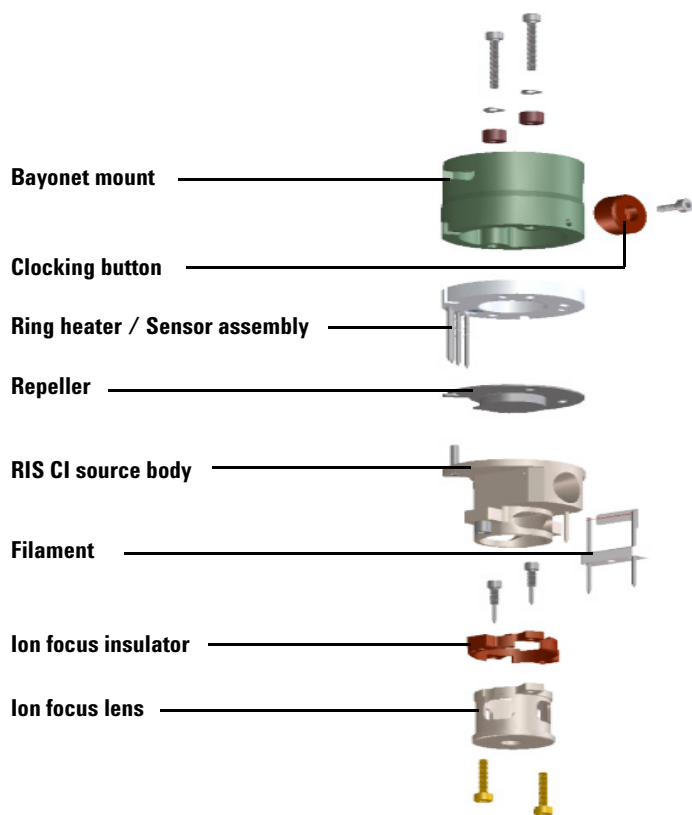

Figure 25 Disassembling the CI ion source
- 3 Remove the ion focus lens and insulator. (See Figure 25.)
- 6 Disassemble the repeller assembly by removing the ceramic insulator and heater assembly from the repeller. (See Figure 25.)